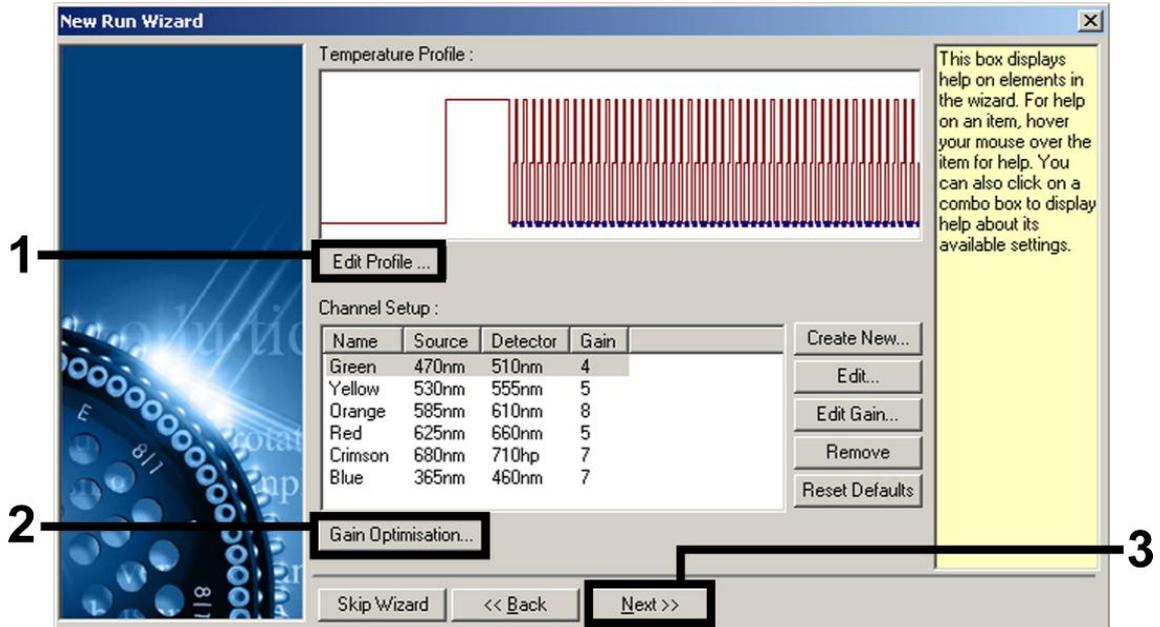
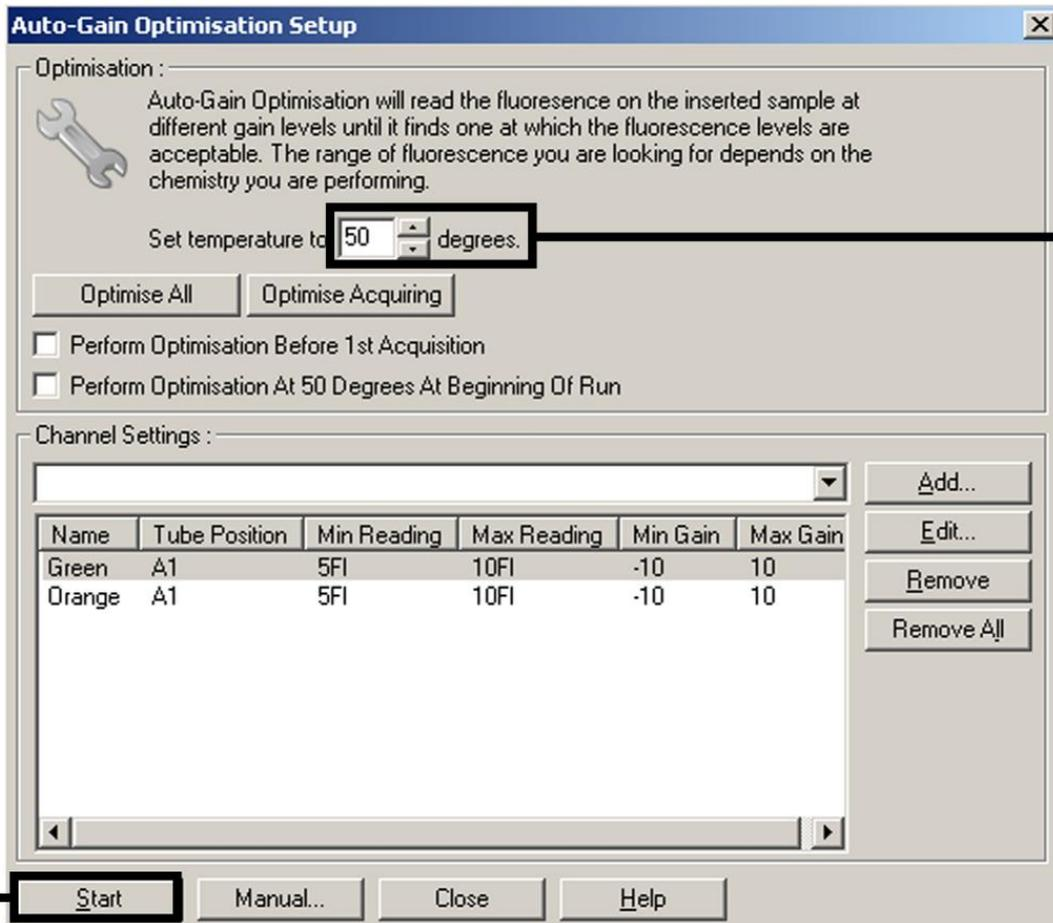

Figure 6. Editing the profile.
Figure 10. Adjusting the fluorescence channel sensitivity.
Adjusting the fluorescence channel sensitivity	Figure 10
- Click the "Edit Profile" button in the next "New Run Wizard" dialog box (Figure 6), and program the temperature profile as shown in Figures 6–9).
9. The detection range of the fluorescence channels has to be determined according to the fluorescence intensities in the PCR tubes. Click "Gain Optimisation" in the "New Run Wizard" dialog box (see Figure 6) to open the "Auto-Gain Optimisation Setup" dialog box. Set the calibration temperature to 50 to match the annealing temperature of the amplification program (Figure 10).